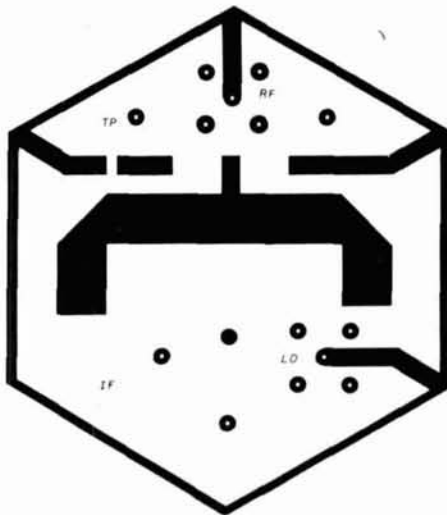
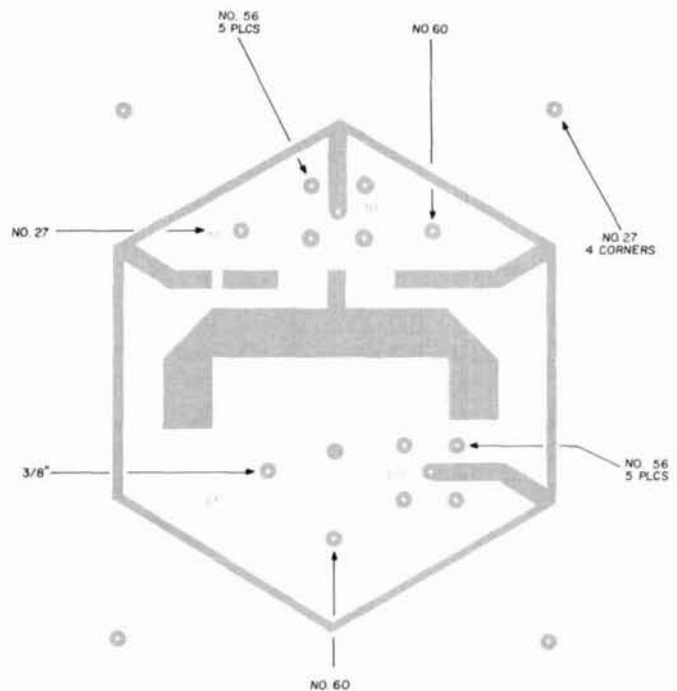

fig. 4. Full-size layout for the rat-race mixer circuit board. Drilling instructions are shown in fig. 5.
fig. 5. Drilling template for printed circuit board.
- C3 25-ohm open-circuit microstripline, 1 quarter-wavelength long at 1152 MHz (see fig. 4)
- C4 25-ohm open-circuited microstripline, 1 quarter-wavelength long at 1296 MHz (see fig. 4)
- Z1 70-ohm rat-race hybrid at 1224 MHz (see fig. 4)
Fig. 4 is a full-scale layout for the rat-race mixer. The pattern should be etched on 1/16 inch (1.5mm) thick G-10 fiberglass-epoxy printed circuit laminate, double-clad with 1 ounce copper (1.4 mils or 36 microns thick). One side of the board is unetched and serves as a groundplane for the microstriplines on the etched side. Drill the board as shown in fig. 5.
The components required to build the rat-race mixer described in this article are available from various sources in the United States; the printed-circuit board may be etched from the full-size artwork shown in **fig. 4**. For those uhf experimenters who don't have the facilities to etch their own boards, commercially etched, drilled, and plated boards are available from Microcomm.*